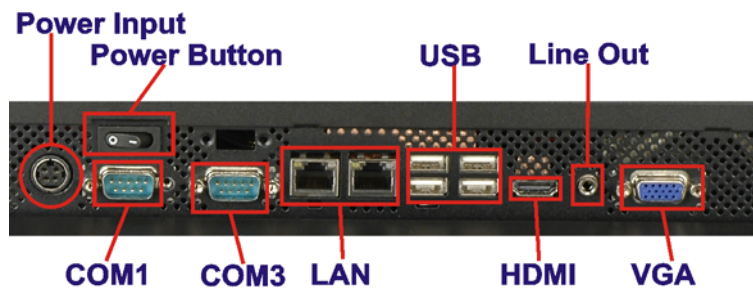

Figure 2-7: Connectors
Step 1: Locate the DB-9 connector. The location of the DB-9 connector is shown in Figure 2-7.
Step 1: Located the USB connectors. The locations of the USB connectors are shown in **Figure 2-7**.
- Step 1:** **Locate the female DB-15 connector.** The location of the female DB-15 connector is shown in **Figure 2-7**.